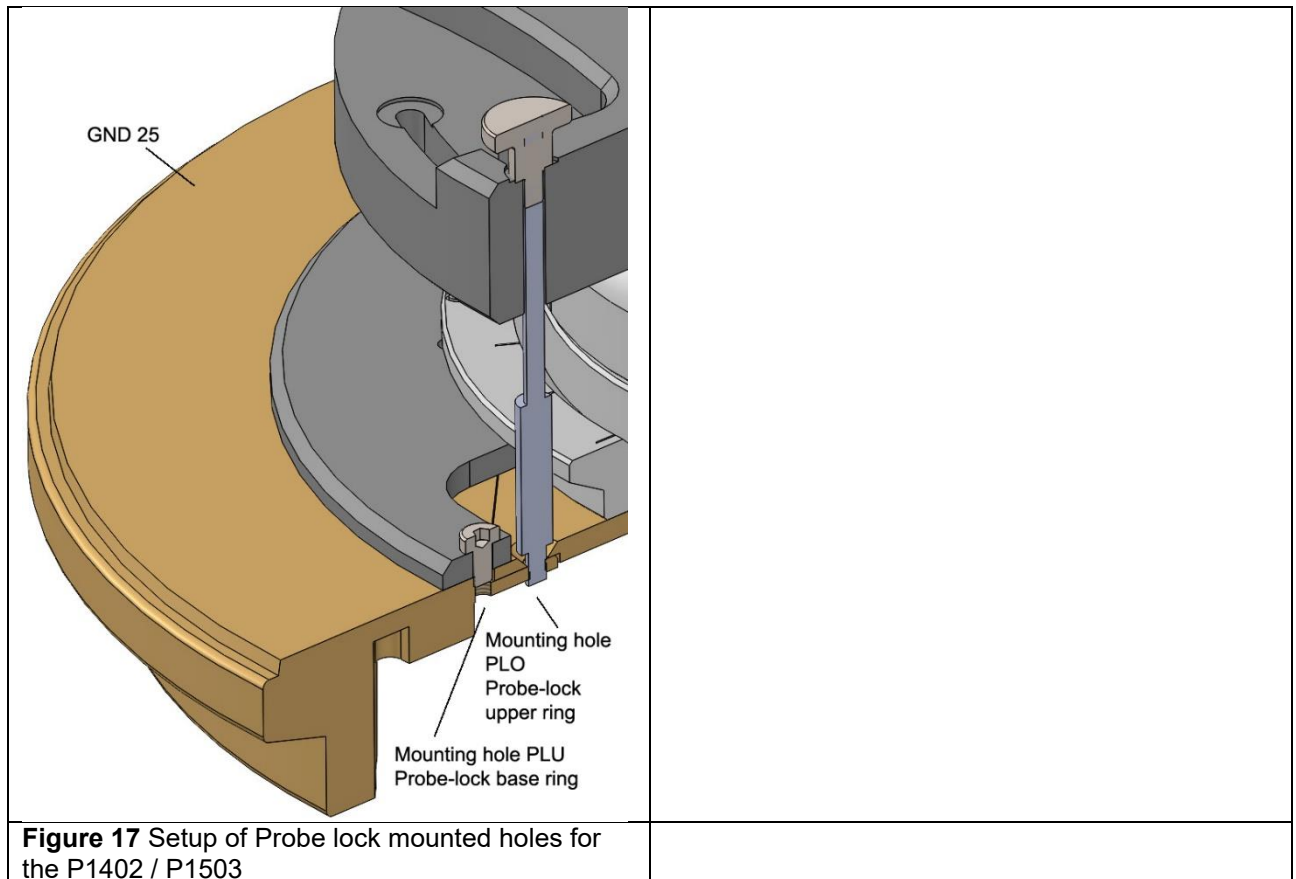

Figure 17 Setup of Probe lock mounted holes for the P1402 / P1503
1. Place the PLU Probe-lock lower ring on the ready to use GND 25 (with GNDA 0X) and mount it with the screws in the hole shown in **Figure 17**
3. Place the PLO Probe-lock upper ring on top and fix the 4 screws shown in **Figure 17**